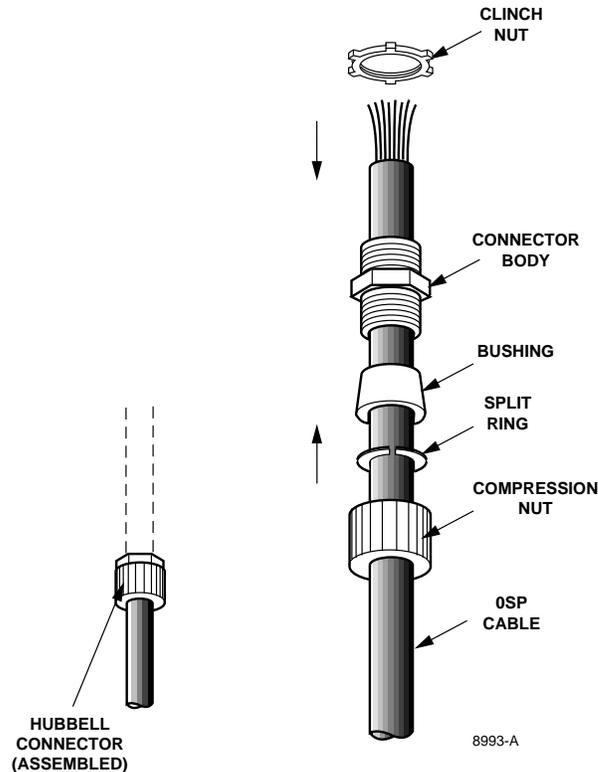

Figure 6. Hubbell Connector Kit
2.06 The Hubbell connector kit (**Figure 6**) is installed on-site to secure an OSP cable to the bottom (or top) of the wall box. Each Hubbell connector kit includes all the parts necessary to secure an OSP fiber cable to the wall box.